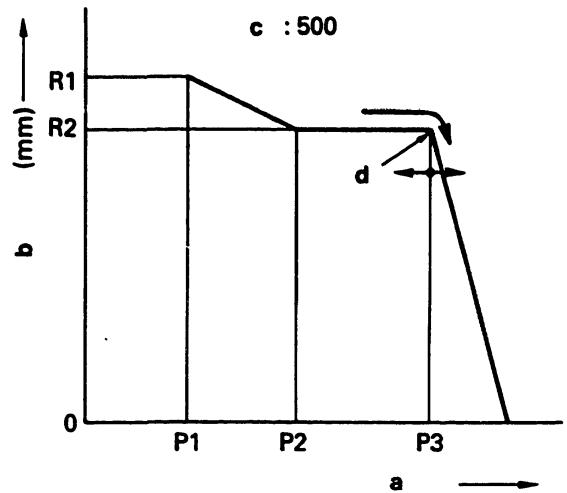

Fig. 64
Adjust the governor spring (11) setting force by changing shim thickness so that at negative pressure level P3 the control rack begins to move from R2 in the "fuel-decrease" direction. (Figs. 64 and 65)